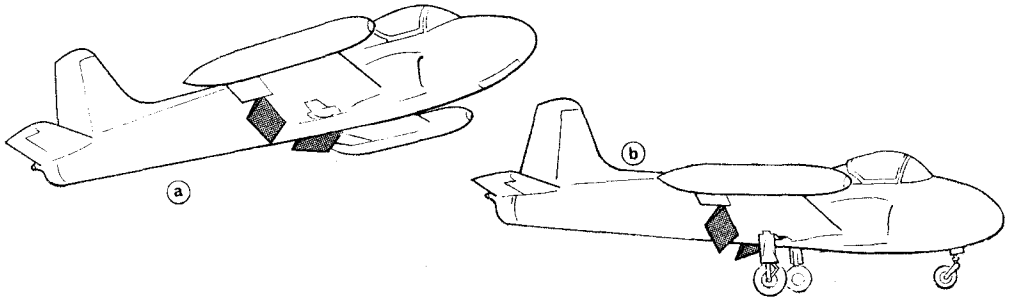

Fig 9 Flaps
12. **Flaps.** The flaps may form part of the inner ends of the trailing edges of the mainplanes (Fig 9). They are movable control surfaces forming part of the mainplane. Unlike the ailerons, port and starboard flaps, when operated, move only from neutral to down and back to neutral. A separate lever in the cockpit causes both flaps to move together in the same required direction at the same rate of movement. When partially lowered for aircraft 'take-off', the flaps increase the 'lift' of the mainplanes and the aircraft climbs at a greater rate (Fig 9a). When fully lowered, for 'landing', wing 'lift' is again increased and the aircraft descends more slowly and at a steeper angle (Fig 9b).